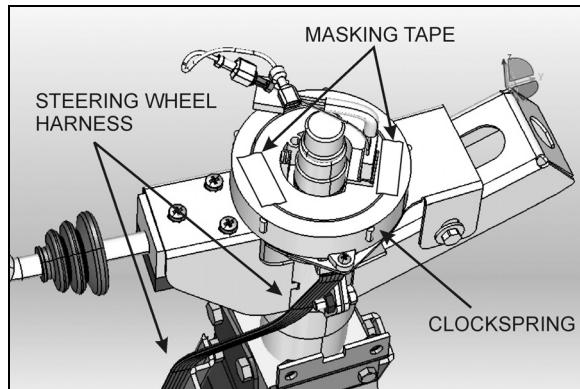

FIGURE 12: LOCKING THE CLOCKSPrING IN PLACE
- Once the steering wheel is removed, it is important to block any rotating movement of the clockspring in order to prevent it from losing its neutral position. Use two pieces of masking tape to lock it in place (Fig. 12).